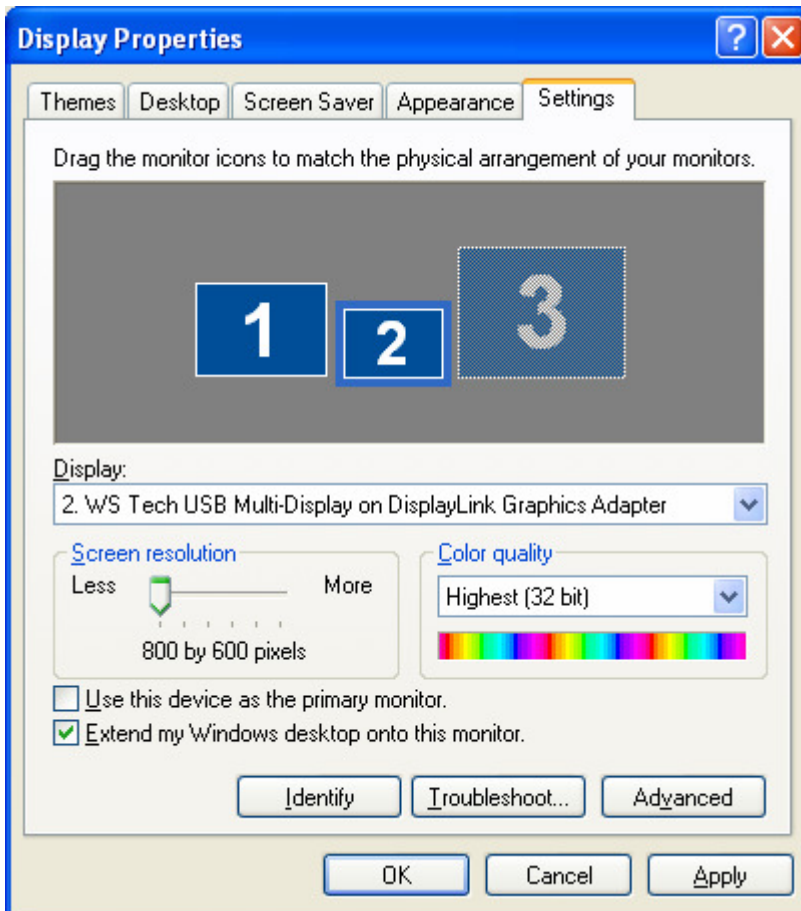

Fig. 9 Windows XP Display Properties.
- c. Click on display 2 or 3 and confirm that it is the WS Tech USB Display on DisplayLink Graphics Adapter in the Display: window (Fig. 9).